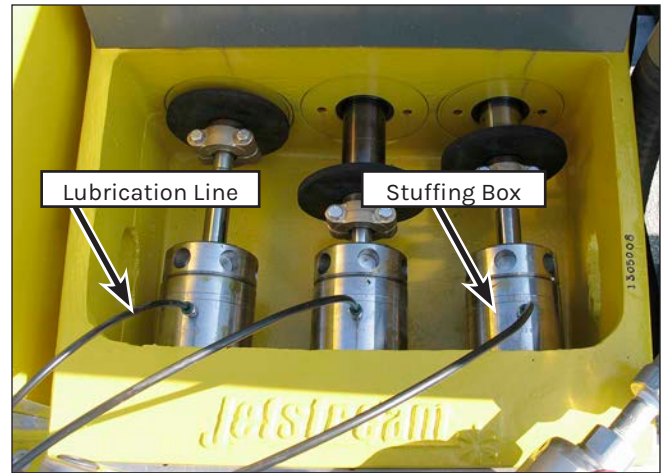

Figure 35: Checking Lubrication.
2. Look into the rod box and verify that lubrication water is flowing from the back of the gland nut at the plunger/gland nut intersection. The flow should be a small stream but should not splash onto the pony rods. (Figure 35).